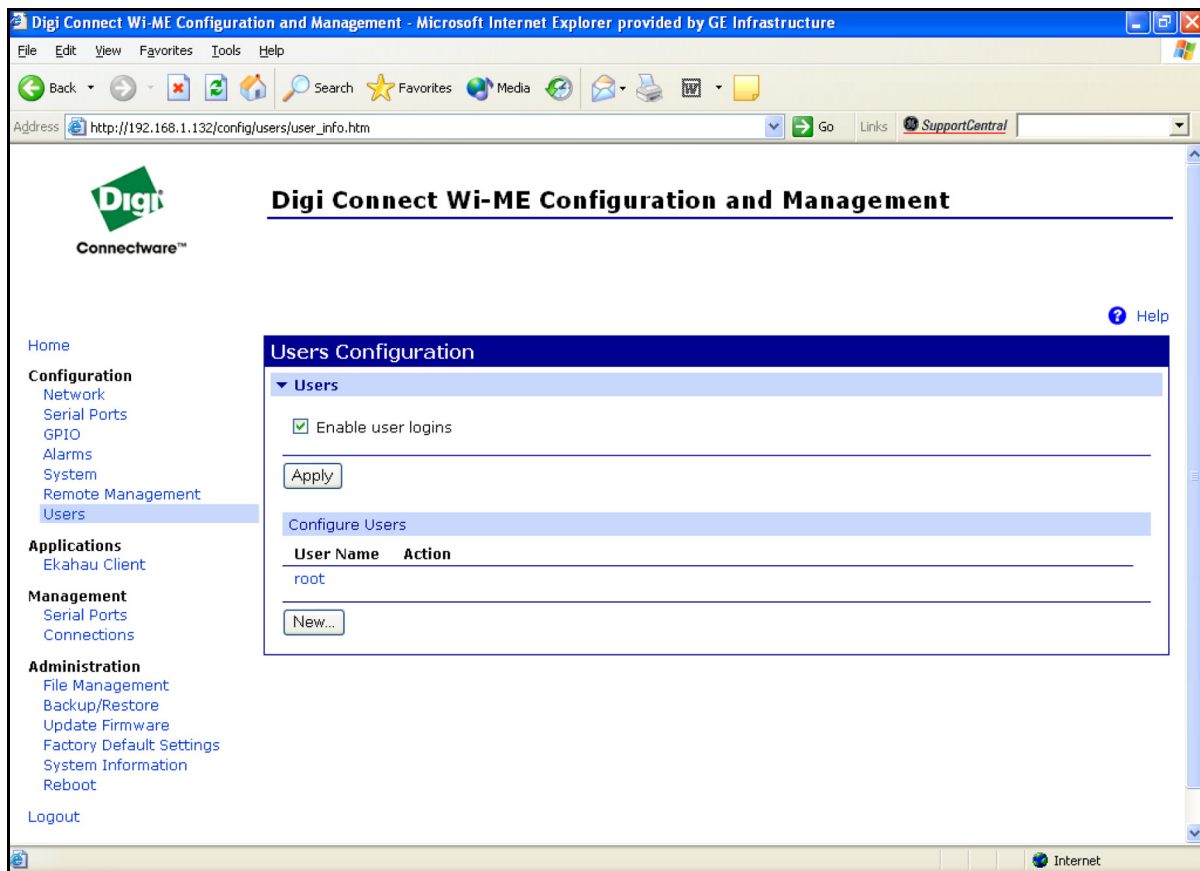

Figure 44: User's Configuration Menu
3. Click on **Login**. Figure 44 appears.